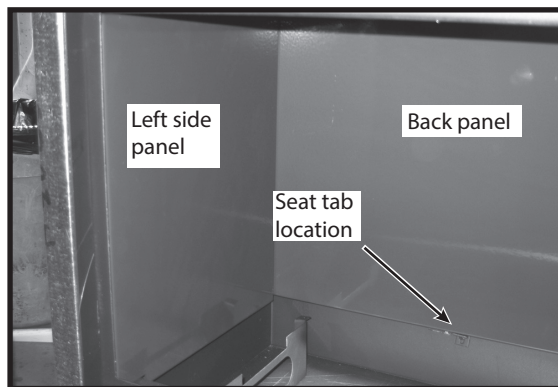

Figure 45: Left seat tab location.
2. While supporting the back panel insert the left side panel (Figure 45) into the firebox. Position the top of the panel against the side of the unit, inserting the top panel tab into the slot at the top of the side panel and slide the bottom into position.